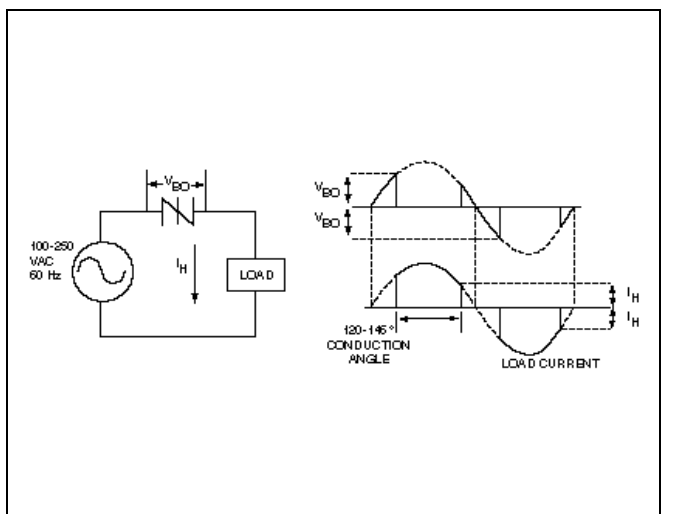

Figure 14 – Basic Sidac Circuit
- See Figure 14 for clarification of Sidac operation.